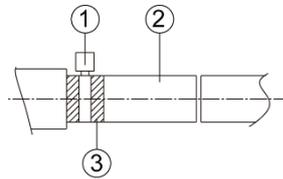
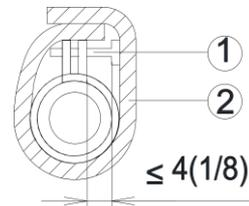

Fig 4.3.2
Fig 4.3.3
- (1) Insert the drain hose into the drain hole and tighten it with tapes, as shown in Fig 4.3.2.
- (2) Tighten the pipe clamp, with the distance between screw nut and hose smaller than 4mm (1/8in.).
- ① metal clamp(accessory)
- ② drain hose(accessory)
(3) Use sealing plate to make the pipe clamp and hose insulated, as shown in Fig.4.3.3.
- ② thermal sponge(accessory)